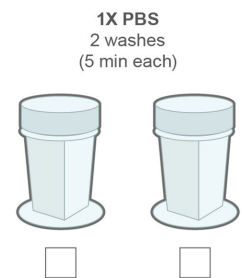

Figure 32: Wash 2X in 1X PBS
10. After slide incubation, tap off excess digestion buffer *one slide at a time* and transfer slides to staining jar containing fresh 1X PBS. Wash for 5 minutes (Figure 32).